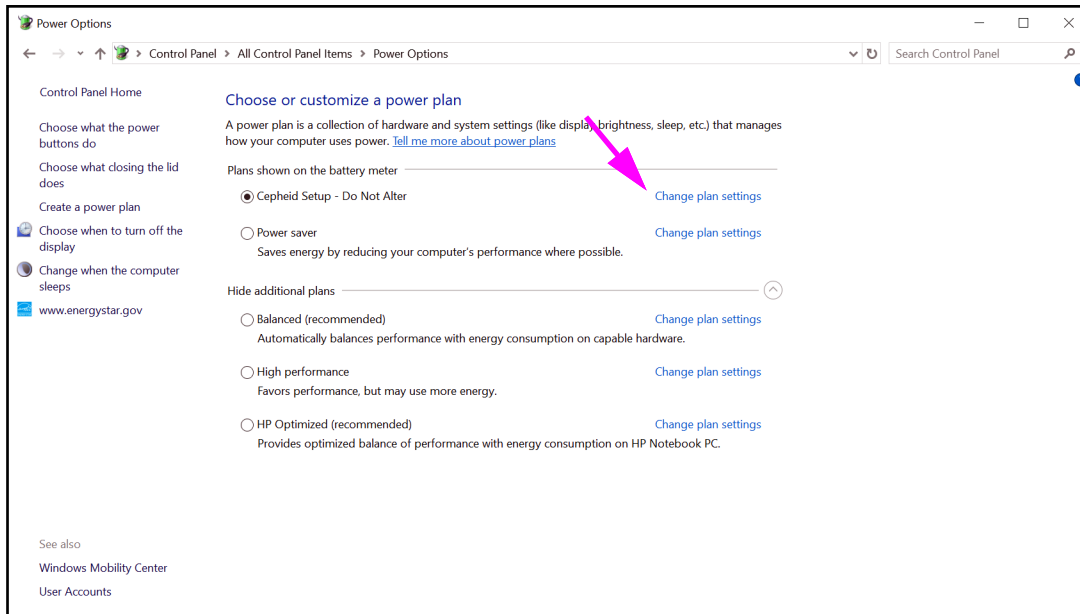
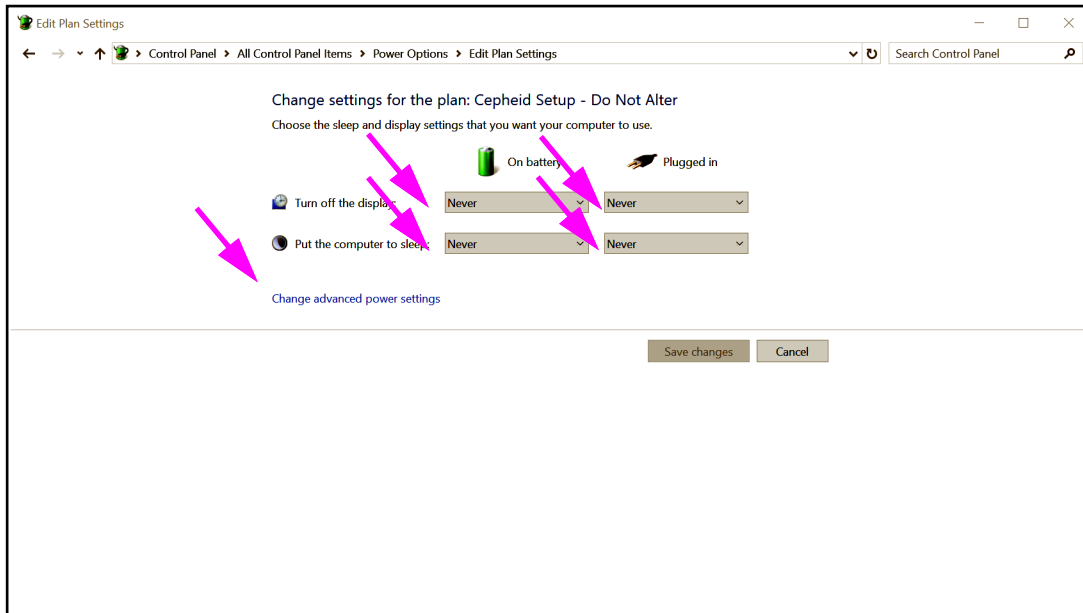
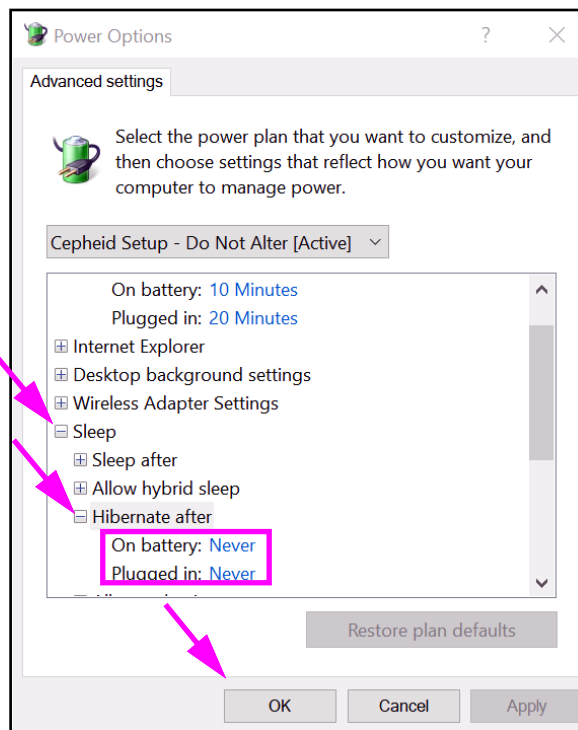
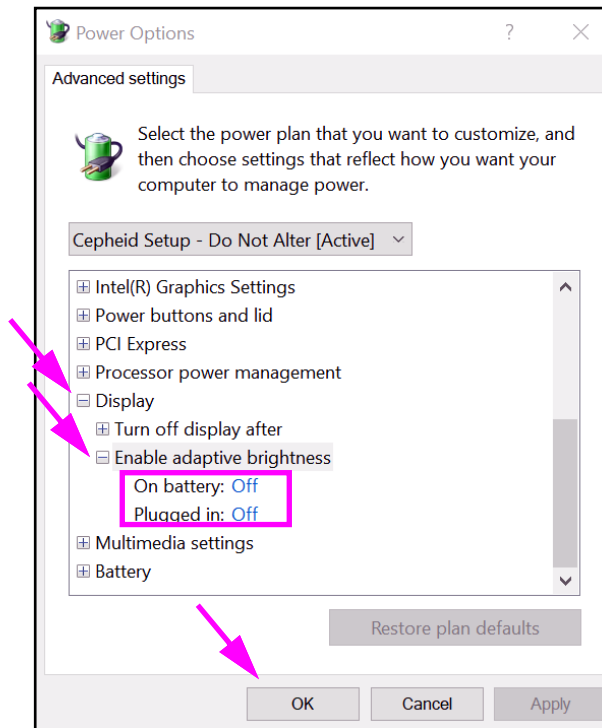

Figure 2-15. Power Options Window
Figure 2-16. Edit Plan Settings Window
Figure 2-17. Power Options—Advanced settings Window (Sleep)
Figure 2-18. Power Options—Advanced settings Window (Display)
3. Under the **Cepheid Setup—Do Not Alter** section, click **Change plan settings**. See Figure 2-15. The Edit Plan Settings windows appears. See Figure 2-16.
4. Make sure the **Turn off the display** and **Put the computer to sleep** features are set to **Never** for both **On battery** and **Plugged in** options. Also, make sure that the **Adjust plan brightness** feature slider is set to its brightest setting. See Figure 2-16.
5. Click **Change advanced power settings** (see Figure 2-16). The Power Options Advanced settings window appears. See Figure 2-17.
6. In the Power Options Advanced settings window, double-click **Sleep** to expand the view, and then double-click **Hibernate after**. See Figure 2-17.
- A. **Desktop Computers:** Verify that **Setting** value is set to zero (0) or **Never**. If not, change the **Setting** value to zero (0) or **Never**.
- B. **Laptops Only:** Verify **On battery** and **Plugged in** values are set to **Never**. If not, click **On battery** and/or **Plugged in**, and then use the up/down arrow keys to set their values to zero (0) on the selectable option.
7. In the Power Options Advanced settings window, double-click **Display** to expand the view, and then double-click **Enable adaptive brightness**. See Figure 2-18.
11. **Laptops Only:** Click **Cancel** to close the Edit Plan Settings window. The Power Options window appears (see Figure 2-15).